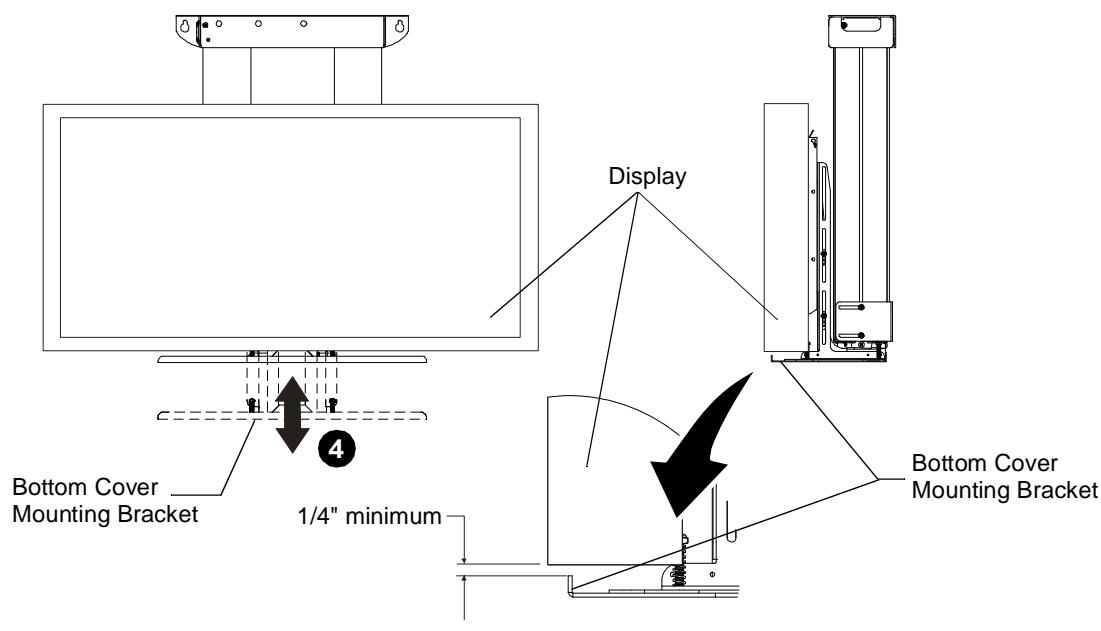

Figure 21
5. Slide bottom cover adjustment brackets upward or downward until lip on bracket is positioned $1/4"$ below the bottom of display. (See figure 21)